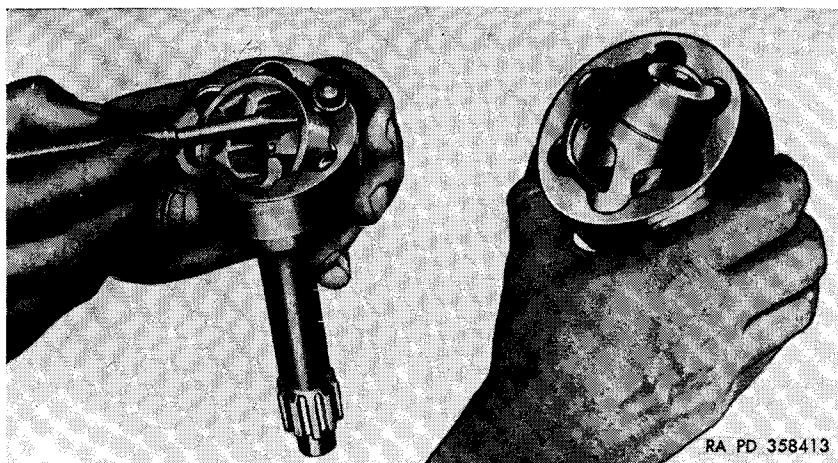

Figure 63. Removing Rzeppa universal joint balls.
d. Remove Universal Joint Balls From Universal Joint Cage (fig. 63). Tilt the universal joint cage in the axle shaft up until the opposite side of the universal joint cage is out of the outer shaft. It may be necessary to use a brass drift and hammer to tilt the universal joint cage. Use a screw driver to pry the universal joint balls out of the universal joint cage. Repeat the operation until all of the balls are removed.
e. Remove Cage and Inner Race From Axle Shaft (fig. 63). Turn the universal joint cage in the axle shaft cup in line with the two larger elongated holes between the two bosses in the axle shaft. Lift the universal joint cage and universal joint race from the axle shaft cup.